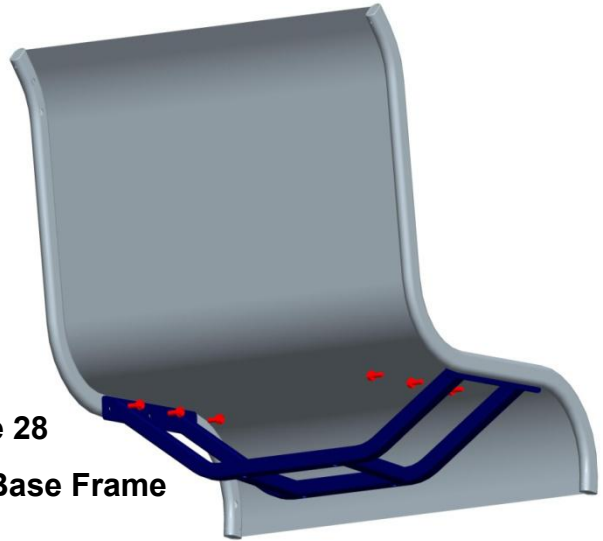

Figure 28
Locate Seat & Backrest Frame (#16) and Seat Base Frame (#17). Install the Seat Base Frame (#17) onto the Seat & Backrest Frame (#16) using six (6) M6x16 Bolts and six (6) Steel Washers as shown in Figure 28.